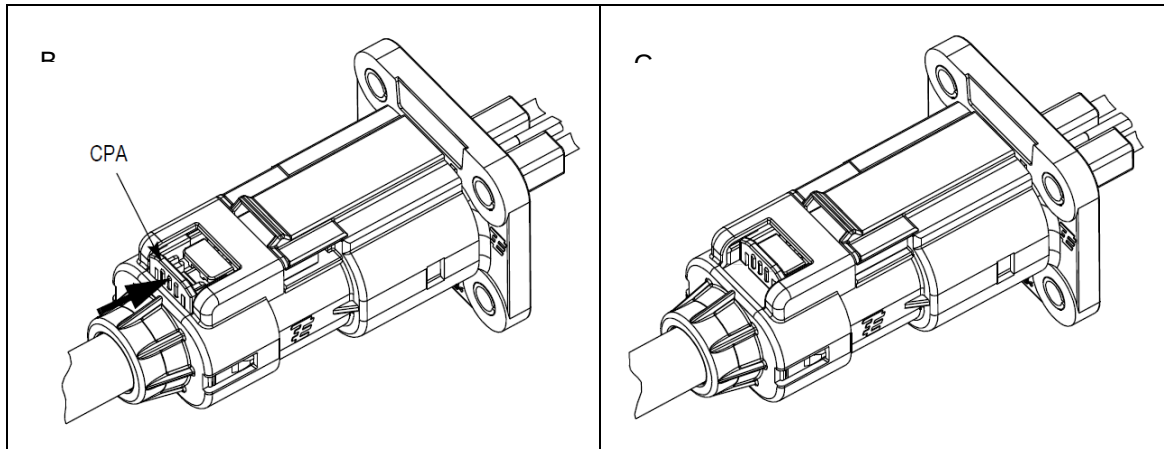

Figure 22 – Connector Mating
- Align plug and header connectors as shown in Figure 22(A)
- Verify that the connectors are fully locked with a light tug and by visually verifying the thumb actuation pad has returned to its' upward position as shown in Figure 22(B).
- If present, push the red Connector Position Assurance (CPA) forward from the position shown in Figure 21B until it stops as shown in Figure 22(C).